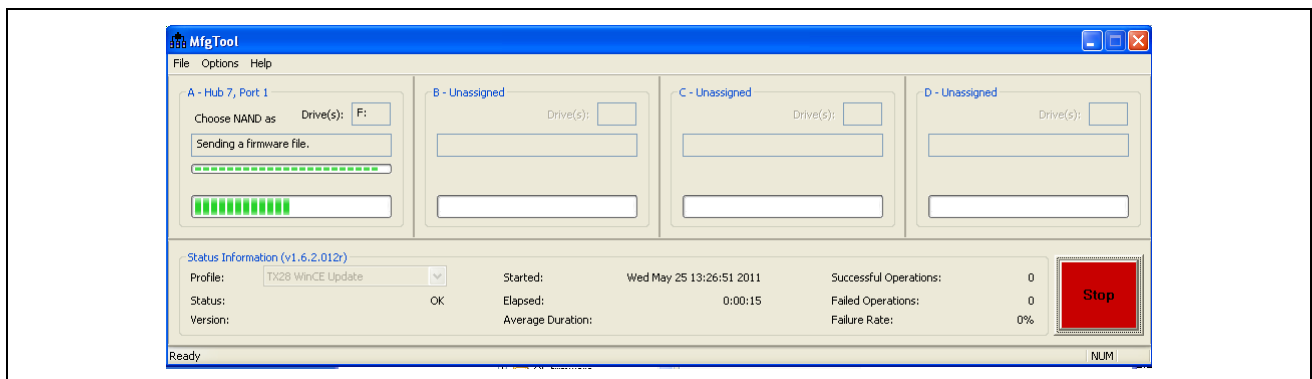

Figure 9 MfgTool Busy
- 14 Click on the green Start button. The sensor node software should start loading as seen by the progress bars in Figure 9.